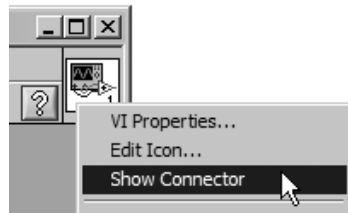

Figure 3.79
11. Switch back to the front panel and pop up on the icon pane (the little window in the upper-right corner). Select **Show Connector** from the menu (see Figure 3.79). Observe the connector that appears. If you can't get the pop-up